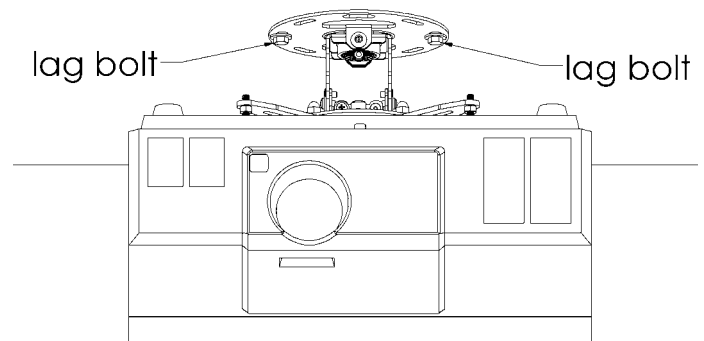

Figure 13. (Flush Mount) Yaw Adjustment Screws
1. Loosen (slightly) lag bolts (see Figure 13).